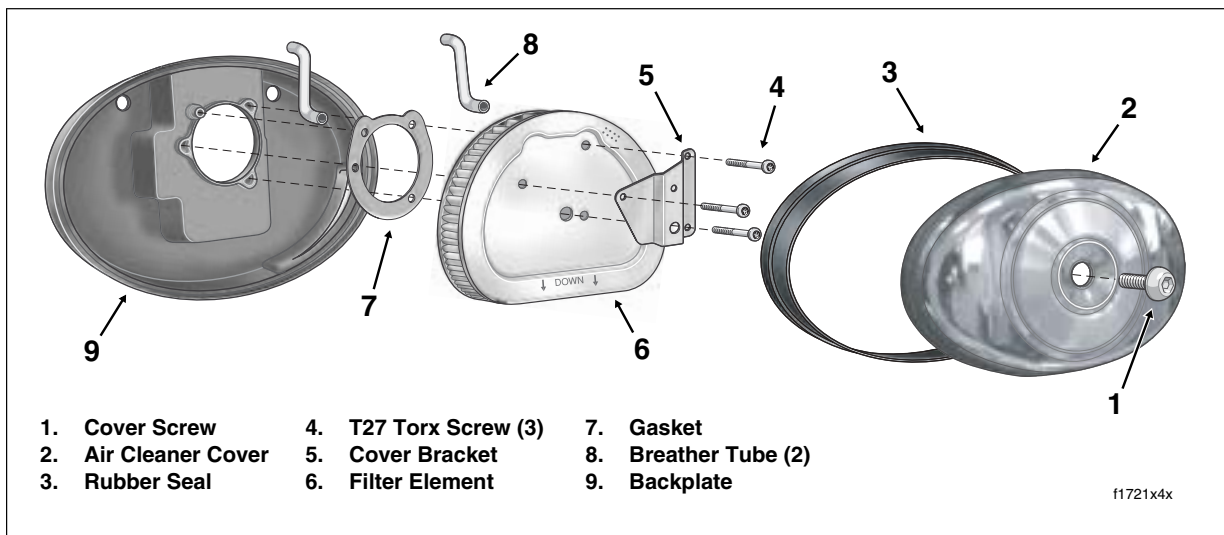

Figure 1-4. Air Cleaner Assembly
1. Remove large allen head socket screw in center of air cleaner cover. Remove air cleaner cover with rubber seal. See Figure 1-4.